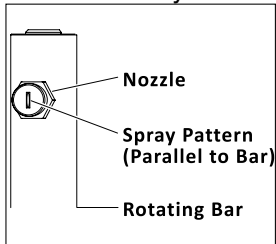

Figure 1
- Nozzles should be screwed into the rotating bar. The spray fan should be parallel to the Rotating Bar. (See figure 1.)